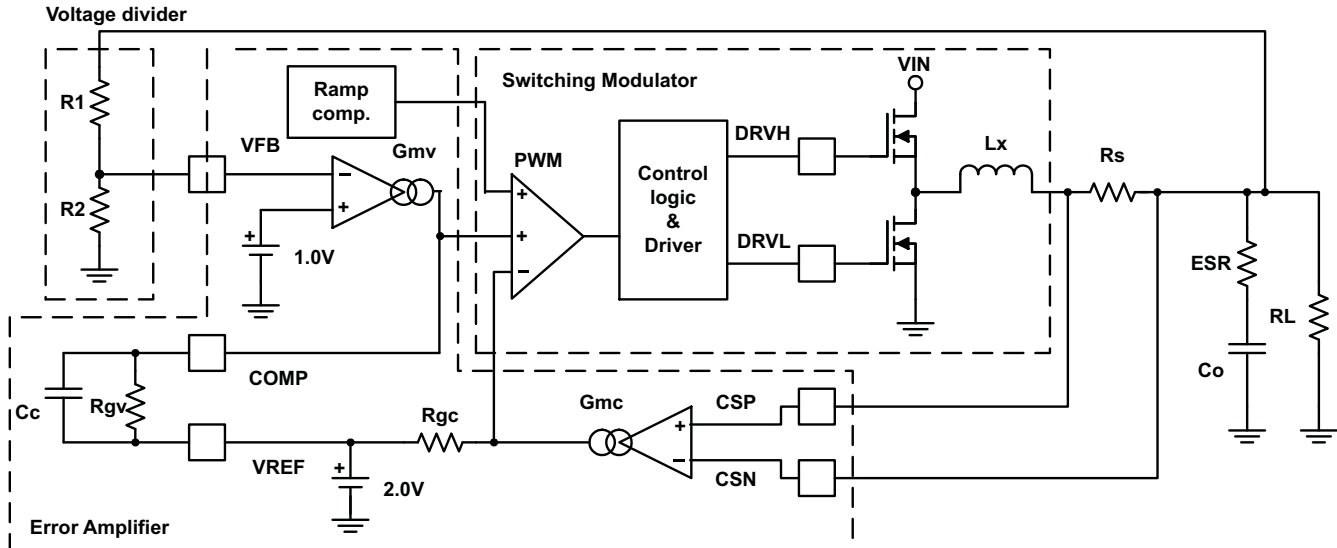

Figure 44. Simplified Current Mode Functional Blocks
A buck converter using TPS51221 consists of linear circuits and a switching modulator. Figure 44 shows basic scheme.
1. Determine output voltage dividing resistors (R1 and R2: shown in Figure 44) using the next equation